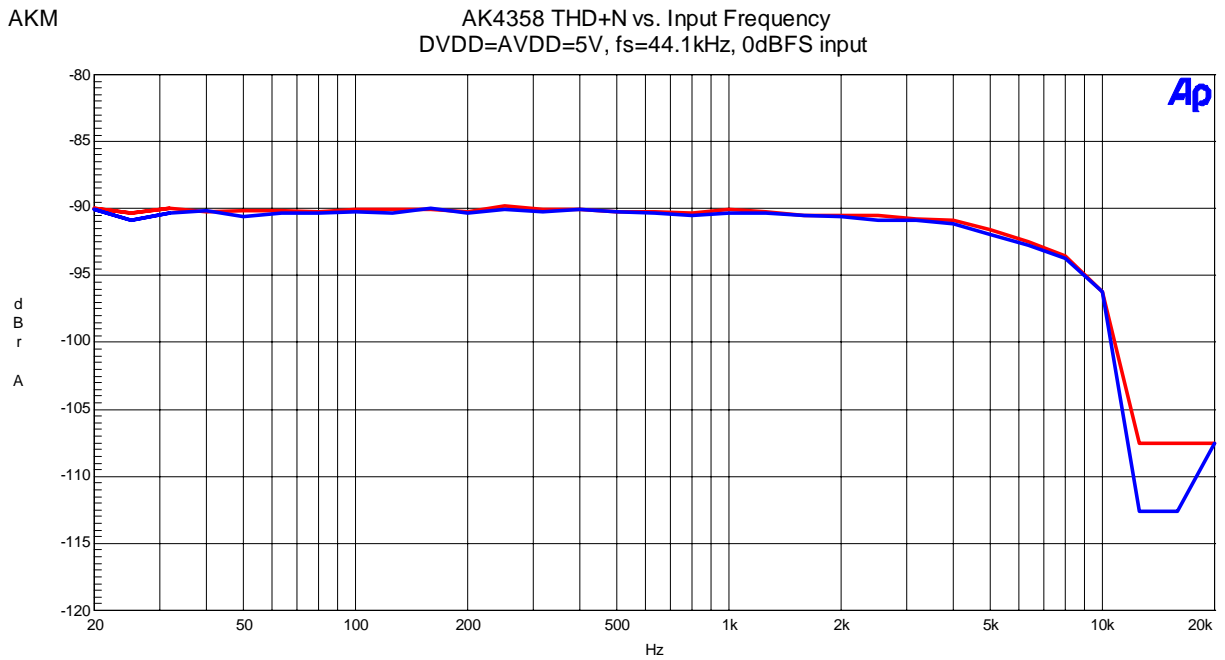

Figure 6. THD+N vs fin (0dBFS input)
- Figure 6. THD+N vs Input Frequency (0dBFS input)